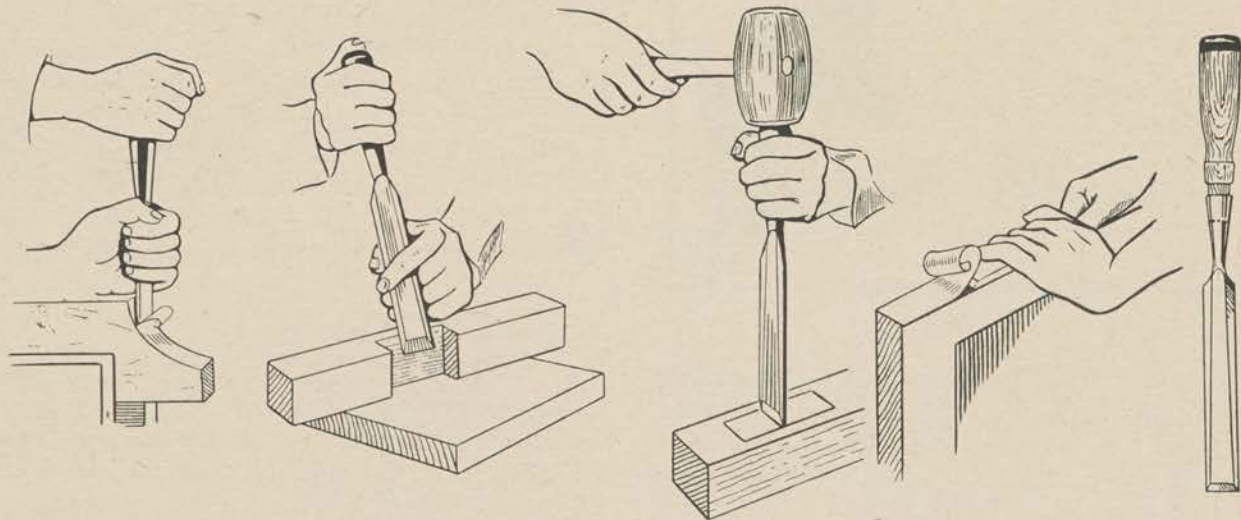

Figure 76.
b. The best chisel for general work is the kind known as a "firmer" with a beveled blade. It comes in many sizes, but a $\frac{1}{4}$ -inch and a $\frac{3}{4}$ -inch chisel will fill most needs. The chisel is extremely useful in small cutting and shaping operations and may be used in many different ways. Some of these are demonstrated in the illustration (fig. 76).